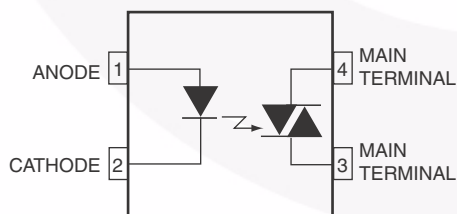

Figure 1. Functional Schematic
- This is static dv/dt . See Figure 1 for test circuit. Commutating dv/dt is function of the load-driving thyristor(s) only.